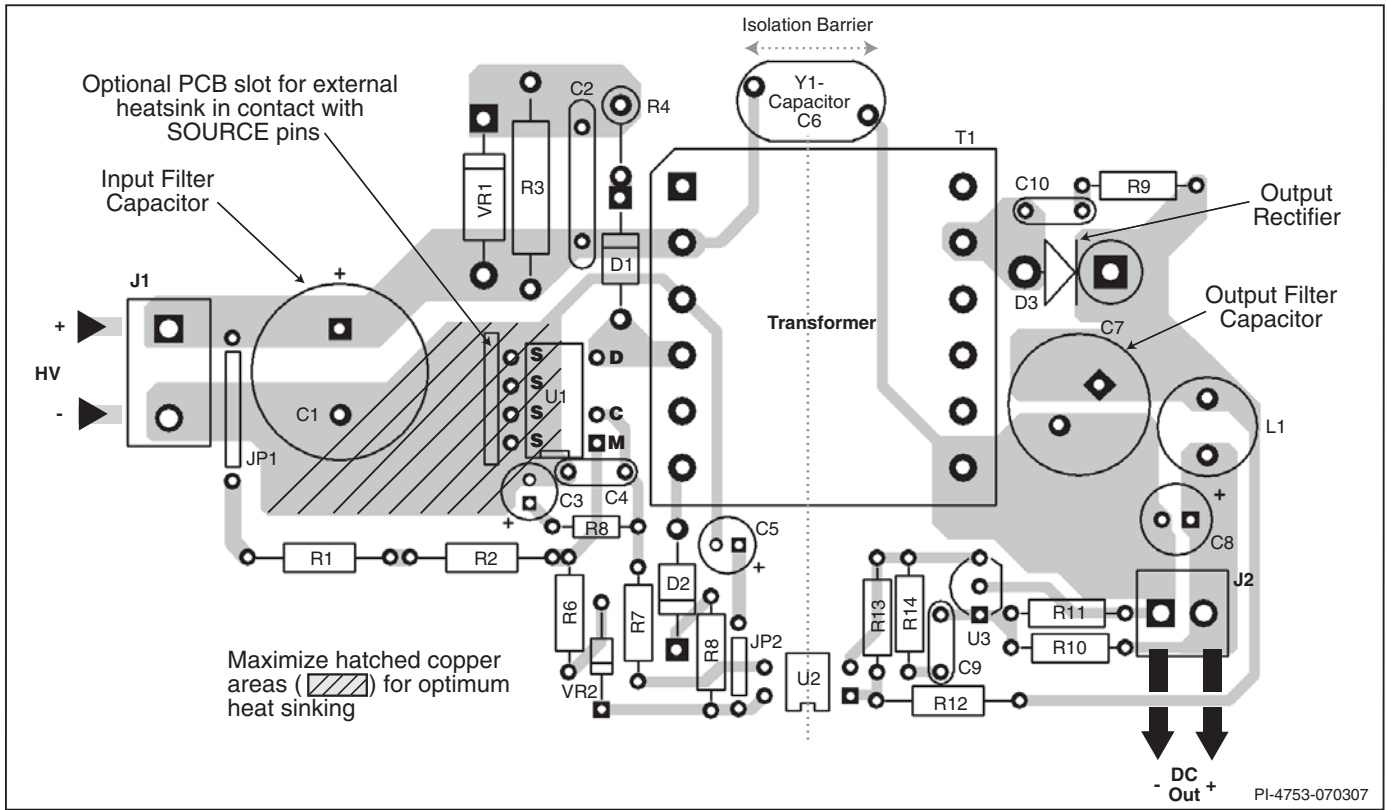

Figure 16. PCB Layout Example Using P-package.
- All SOURCE pin referenced components connected to the MULTI-FUNCTION (M), VOLTAGE MONITOR (V) or EXTERNAL CURRENT LIMIT (X) pins should also be located closely between that pin and the SOURCE pin. The SOURCE connection trace of these components should not be shared by the main MOSFET switching or bias winding return currents. It is very critical that the SOURCE pin switching current is returned to the input capacitor negative terminal through a separate trace that is not shared by the components connected to CONTROL, MULTI-FUNCTION, VOLTAGE-MONITOR or EXTERNAL CURRENT LIMIT pins. This is because the SOURCE pin is also the controller ground reference pin. Any traces to the M, V or X pins should be kept as short as possible and physically away from the DRAIN node, clamp components or any node with high di/dt or dv/dt , to prevent noise coupling.
- In addition to the $47\ \mu\text{F}$ CONTROL pin capacitor, a high frequency $0.1\ \mu\text{F}$ bypass capacitor in parallel should be used for local decoupling (C4 in Figures 16, 17 and 18).